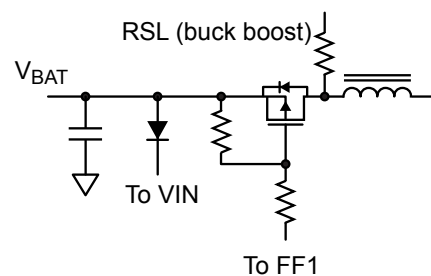
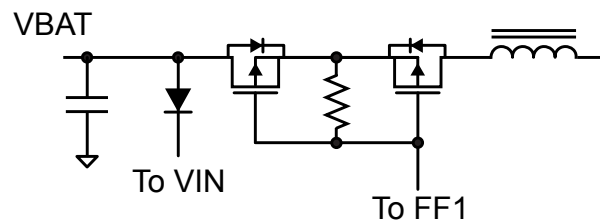

Figure 3. Example of a supply isolation MOSFET
Figure 4. Example of a supply isolation MOSFET
The FF1 output can also be used with pull-up resistors and a P-channel MOSFET in the supply, to isolate the switching elements and the load from the supply. This MOSFET should be connected, as shown in figure 3, with the source connected to the supply and the drain connected to the inductor of the converter.
**Reverse Supply Protection.** Protection for the A6268 is provided by an external low current diode between the supply and the VIN pin, as shown in the Functional Block Diagrams section. The isolation MOSFET shown in figure 3 is only able to provide isolation when the supply polarity is correct. However, with an additional P-channel MOSFET, it is also possible to provide reverse battery protection to the switching elements and the LEDs. The additional FET should be connected, as shown in figure 4, with the drain to the supply and the source to the source connection of the original isolation MOSFET.
In the complete circuit, consideration should be given to limiting the maximum gate-source voltage of the FET. If the supply voltage is likely to exceed 20 V, then either: a Zener clamp must be added in parallel with the gate-source resistor to prevent damage to the FET, or a second resistor added as shown in figure 3.